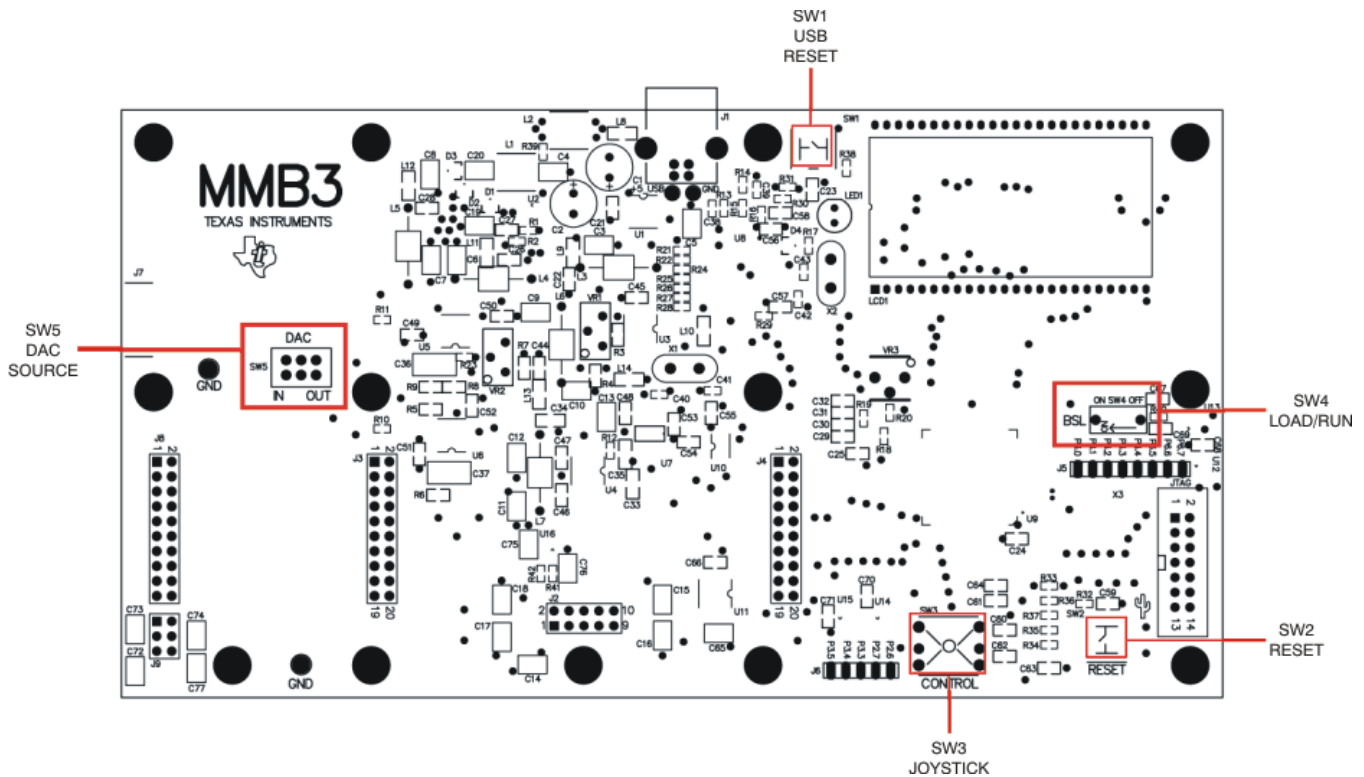

Figure 20. MMB3 Initial Setup
- Step 2. Set the jumpers and switches on the MMB3 as shown in Figure 20.